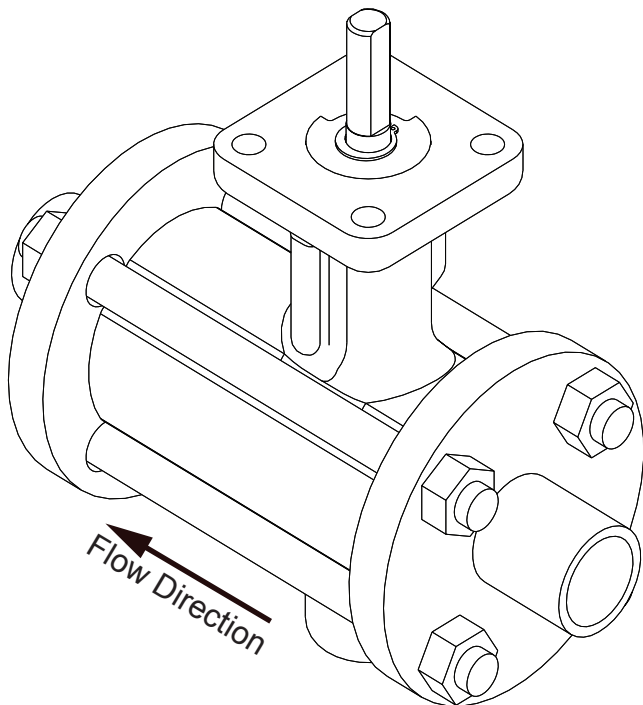

FIGURE 1
1. Figure 1 illustrates a wafered installation